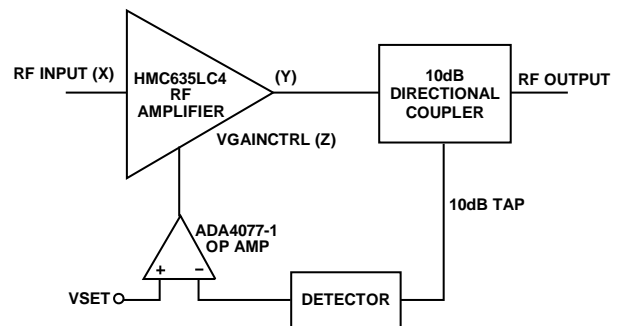

Figure 3. Simple AGC Loop
The central idea behind an AGC circuit of this type is to stabilize the amplitude of an RF signal that may vary based on frequency, temperature, or time. Typically, this circuit has two inputs. The first input is an RF input of a given amplitude whose envelope requires stabilization. The second input is a dc control applied to what is called the VSET input, and it is this input that is used to set the output amplitude. This simple loop is shown in Figure 3.
Figure 3 shows that the difference amplifier is used to compare the VSET voltage to a voltage generated by the detector circuit. The detector converts the RF amplifier output amplitude to a dc voltage. Because the RF input (X) is injected in the middle of the loop, the effect of any variation at X is minimized at the RF output (Y). This effect is true as long as the total loop gain remains high. This effect is explained by the following equations:
The circuit, as built, is more complex than can be described by the simple model of Figure 3. In the actual circuit, the VVA function is broken into two components. The first component is an HMC985A VVA, which provides attenuation from approximately 3 dB at  $V_{CTRL} = -2.4$  V to approximately 40 dB attenuation at  $V_{CTRL} = 0$  V. An HMC635 RF amplifier is used for the gain stage, providing 18 dB of gain over the frequency range of interest.